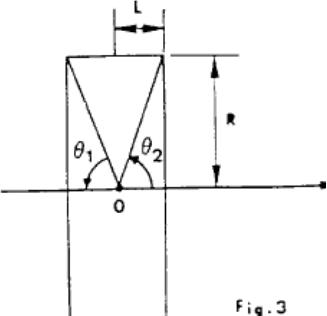

Fig. 3
a) Induction at coil center (figure 3)